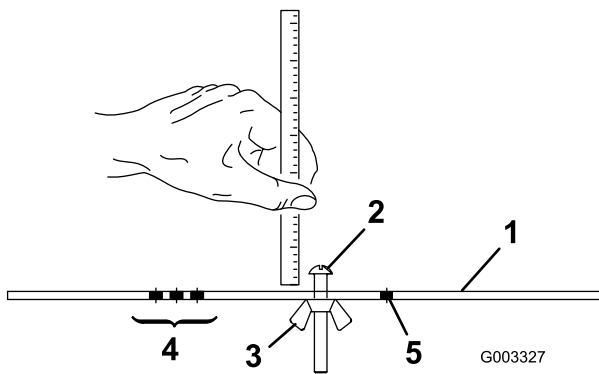

Figure 18
2. Loosen the nut on the gauge bar (Figure 18) and set the adjusting screw to the desired height of cut. The distance between the bottom of the screw head and the face of the bar is the height of cut.